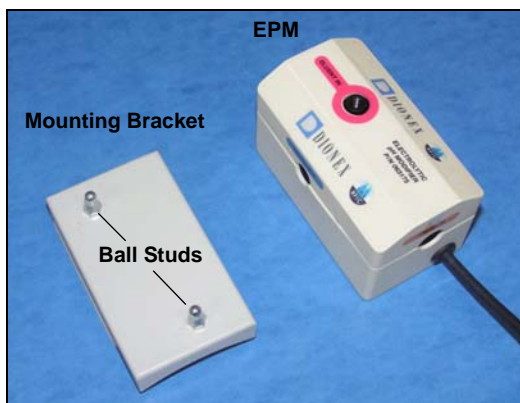

Figure 5-58. EPM and Mounting Bracket
7. Push the EPM onto the ball studs on the mounting bracket (see Figure 5-58).